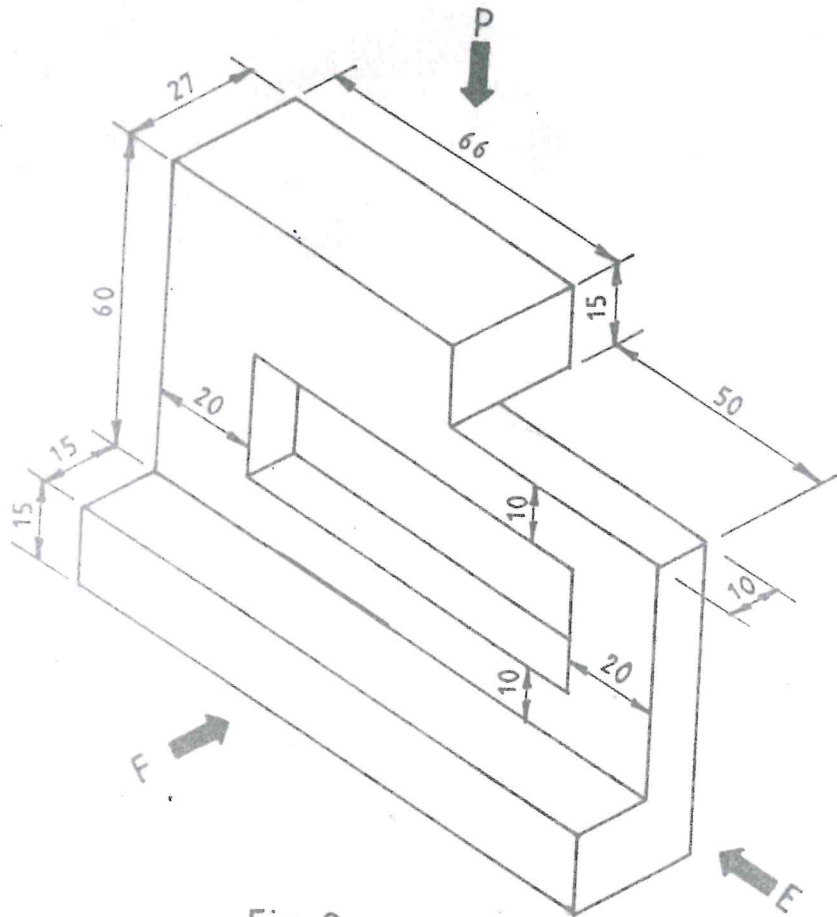

Fig. 2
5. Figure 2 shows a pictorial view of an object. Draw full size the following views in first angle projection: